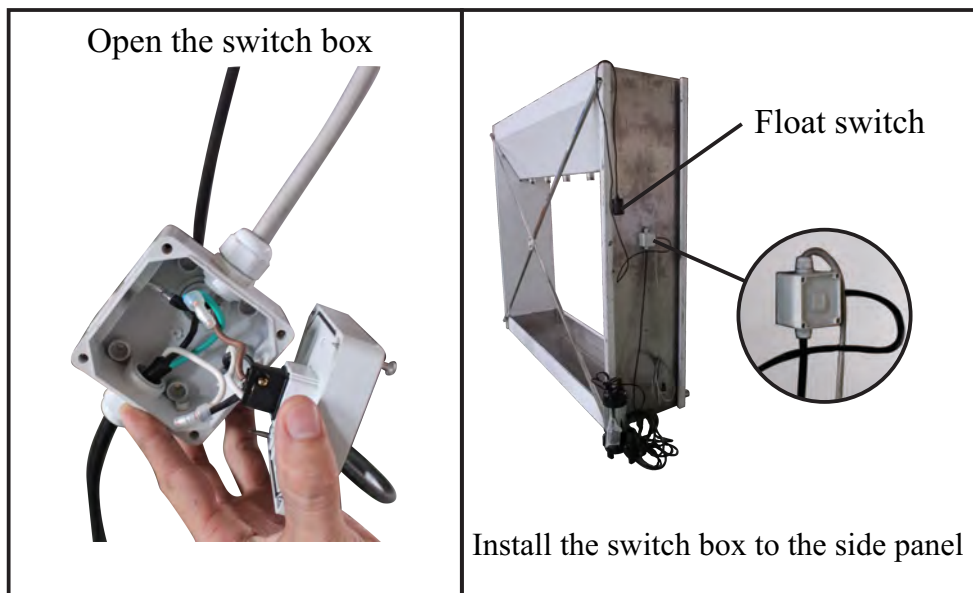

Figure 8
Step 2: Open the switch box and attach it on the side panel (Figure 8).